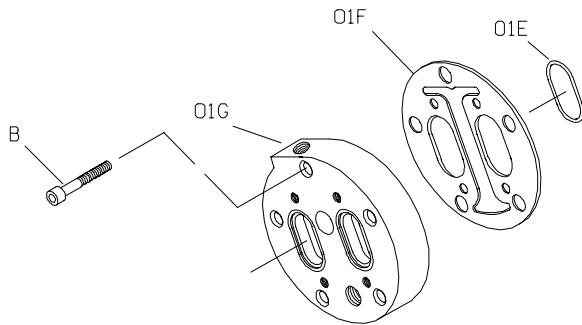

Figure E-2. Typical Head Jacket Assembly
If your pump is equipped with an optional head jacket, see Figure E-2 and remove the capscrews (B) securing the head jacket (01G), gasket (01F) and O-rings (01E) to the head assembly (01A, Figure E-1).
(Figure E-2 And E-3)
If your pump is equipped with an optional head jacket, see Figure E-2 and install the O-rings (01E) in the grooves in the head (Figure 1, 01A).